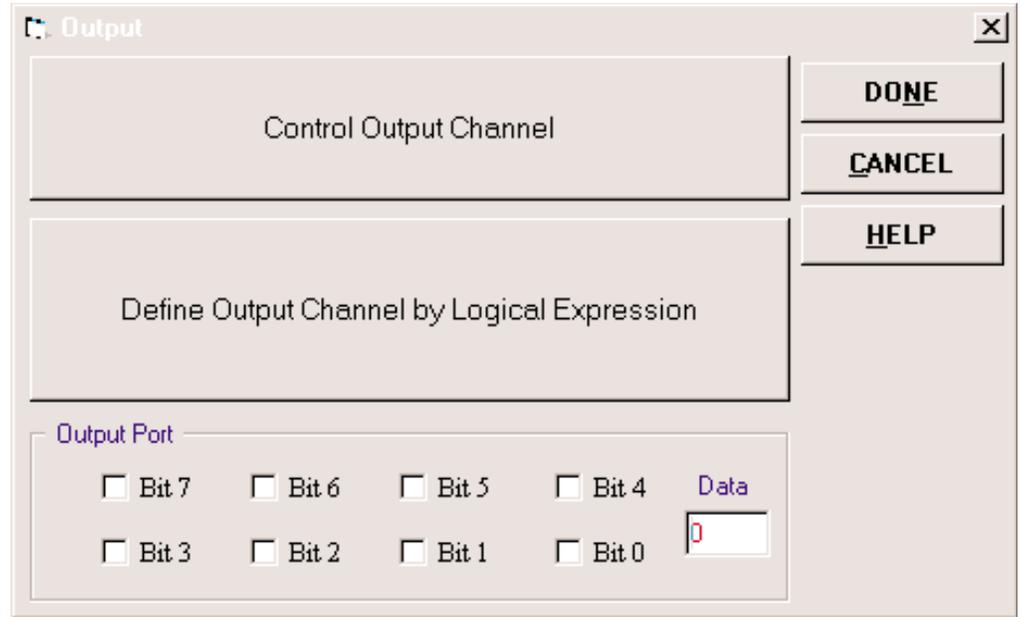

Figure 5.34 - Send Data to Output Port
**Send data (0-255) to output port: see Fig. 5.34.**